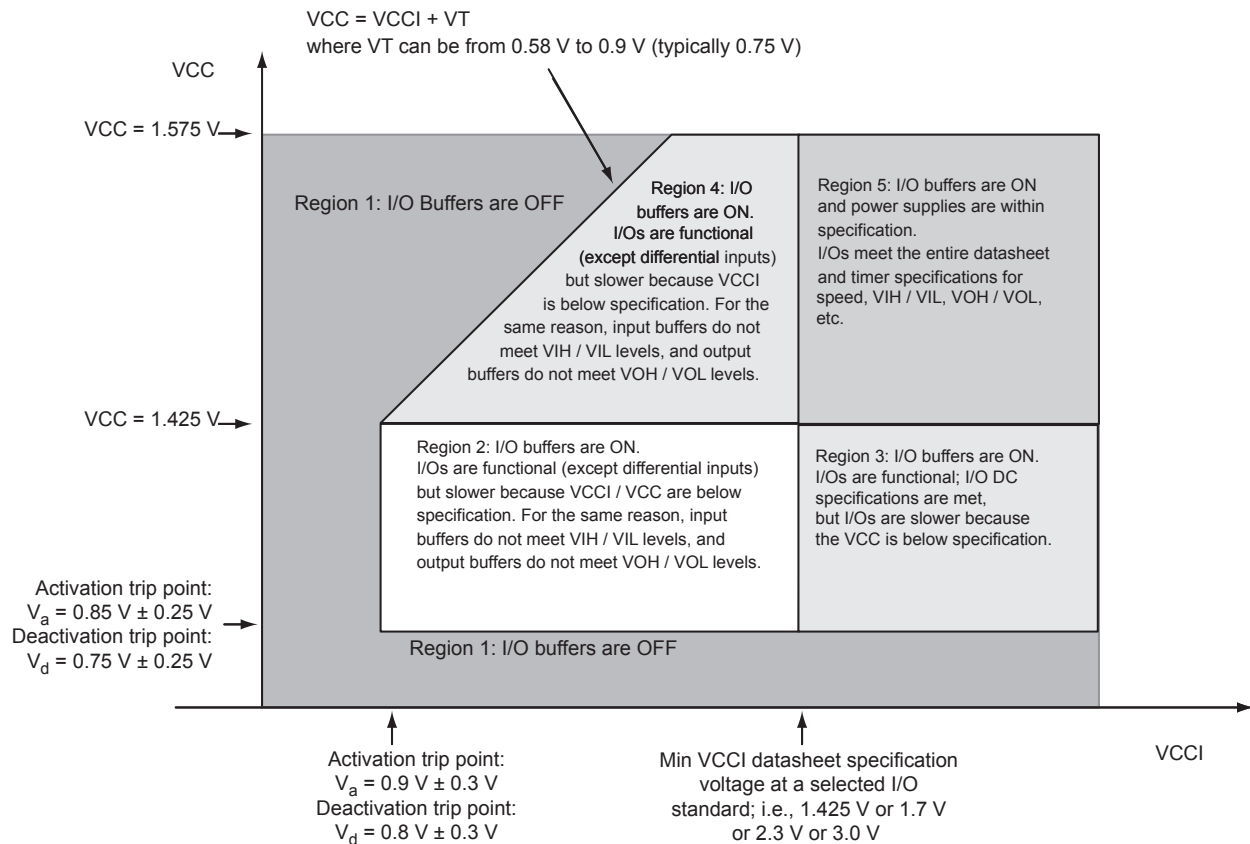
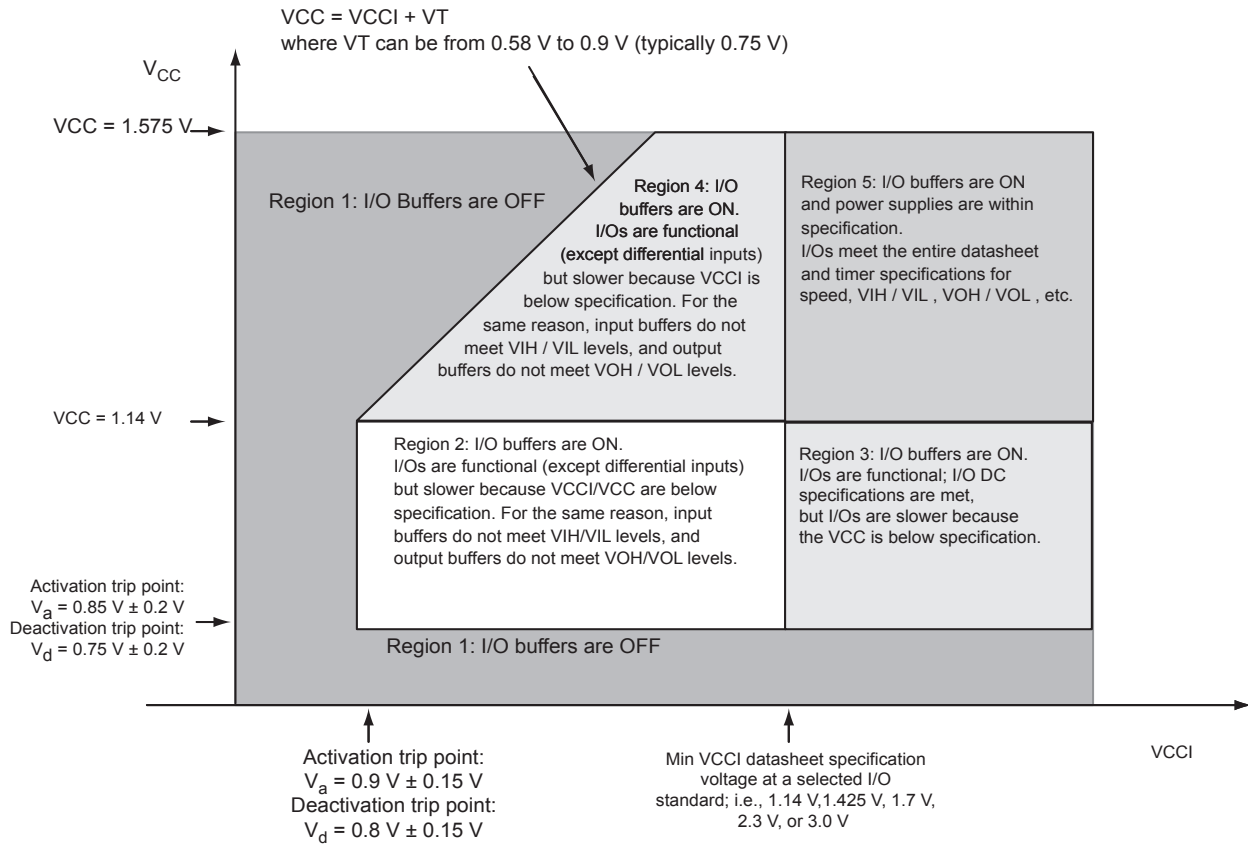

**Figure 2-1 • V5 Devices – I/O State as a Function of VCCI and VCC Voltage Levels**
**Figure 2-2 • V2 Devices – I/O State as a Function of VCCI and VCC Voltage Levels**
Sophisticated power-up management circuitry is designed into every IGLOO PLUS device. These circuits ensure easy transition from the powered-off state to the powered-up state of the device. The many different supplies can power up in any sequence with minimized current spikes or surges. In addition, the I/O will be in a known state through the power-up sequence. The basic principle is shown in Figure 2-1 on page 2-4.
1. VCC and VCCI are above the minimum specified trip points (Figure 2-1 and Figure 2-2 on page 2-5).
Microsemi recommends using monotonic power supplies or voltage regulators to ensure proper power-up behavior. Power ramp-up should be monotonic at least until VCC and VCCPLX exceed brownout activation levels (see Figure 2-1 and Figure 2-2 on page 2-5 for more details).